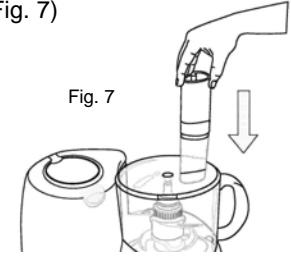

Fig. 7
7. Keep hands and utensils away from the cutting blade while chopping food., to reduce the risk of severe injury to persons or damage to the food processor. A scraper may be used, but **ONLY** when the food processor is **NOT** running and has been unplugged. **Never** feed food by hand. Always use the food pusher. (Fig. 7)